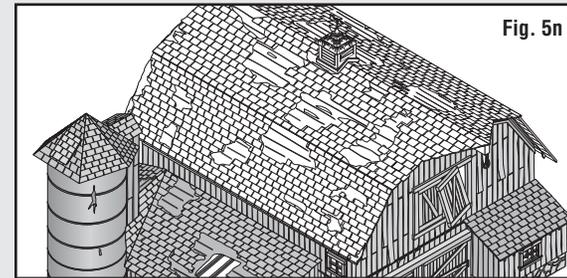

Fig. 5n
- Align grooves underneath Roof Assembly with Building and glue in place (**Fig. 5n**).